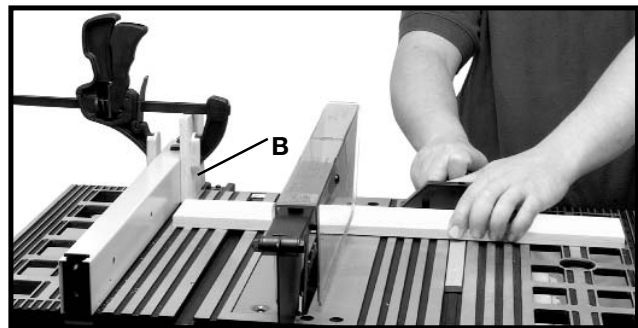

Fig. 39B
When cross-cutting a number of pieces to the same length, a block of wood (B) Fig. 39B can be clamped to the fence and used as a cut-off gauge as shown in Fig. 39B. It is important that this block of wood always be positioned in front of the saw blade as shown. Once the cut-off length is determined, secure the fence and use the miter gauge to feed the work into the cut. This block of wood allows the cut-off piece to move freely along the table surface without binding between the fence and the saw blade, thereby lessening the possibility of kickback and injury to the operator.
**⚠ CAUTION WHEN USING THE BLOCK (B) FIG. 39B, AS A CUT-OFF GAUGE, IT IS VERY IMPORTANT THAT THE REAR END OF THE BLOCK BE POSITIONED SO THE WORK PIECE IS CLEAR OF THE BLOCK BEFORE IT CONTACTS THE BLADE.**